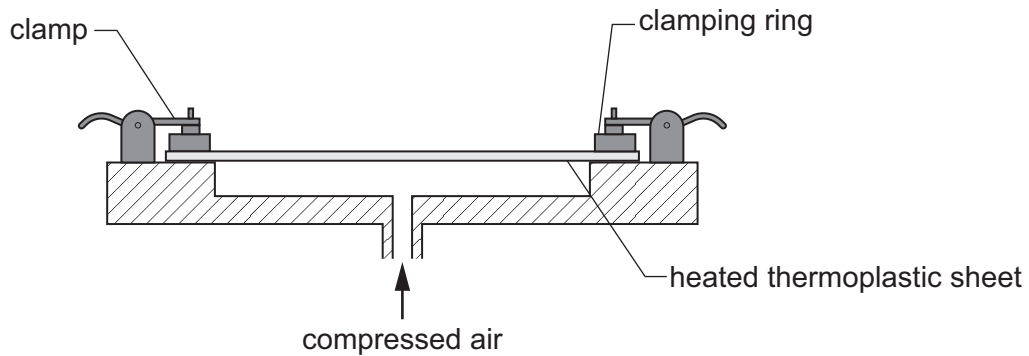

Fig. 8.1
- 8 Fig. 8.1 shows a stage in a process to shape thermoplastic sheet.
- (a) Name the process shown in Fig. 8.1.
- (b) Draw on Fig. 8.1 to show what happens to the thermoplastic sheet when compressed air is applied. [1]